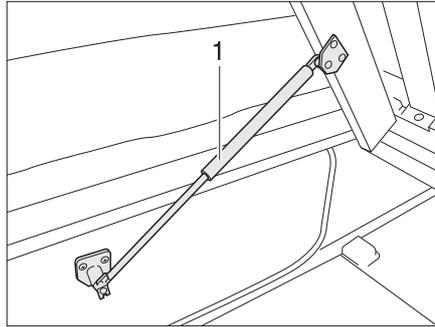

Fig. 66 Fixed bed
- Lift slatted frame. The gas-pressure springs (Fig. 66,1) hold the slatted frame open.